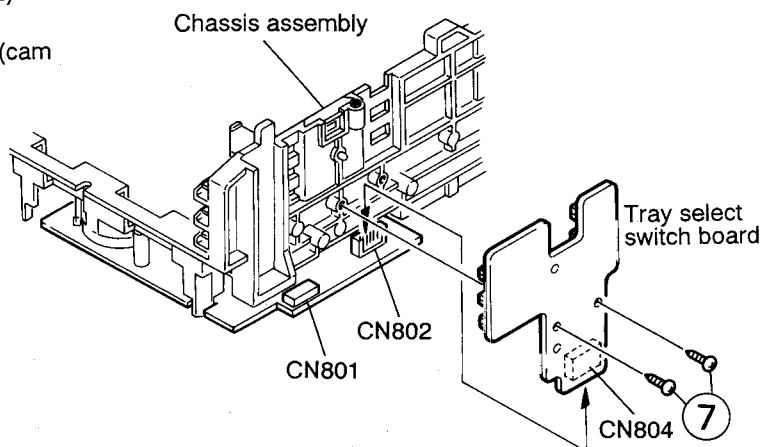

Fig. 5-29
2. Remove the two screws (6) retaining the actuator motor board (See Fig. 5-29).
3. Remove the two screws (7) retaining the tray select switch board (See Fig. 5-29).